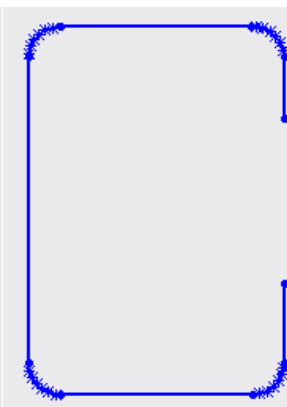
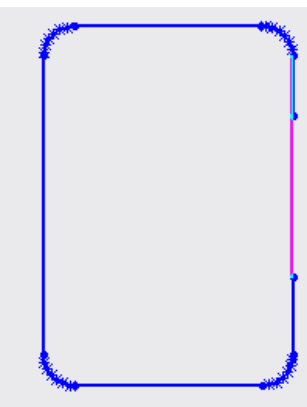

Figure 2
Figure 3
10. Press the *Delete* key on the keyboard to delete the entities as shown in the **Figure 2**.
11. Hold the left button of mouse on upper point (shown in Figure2) and extend the line till lower point to connect the open entities as shown in the **Figure 3**.